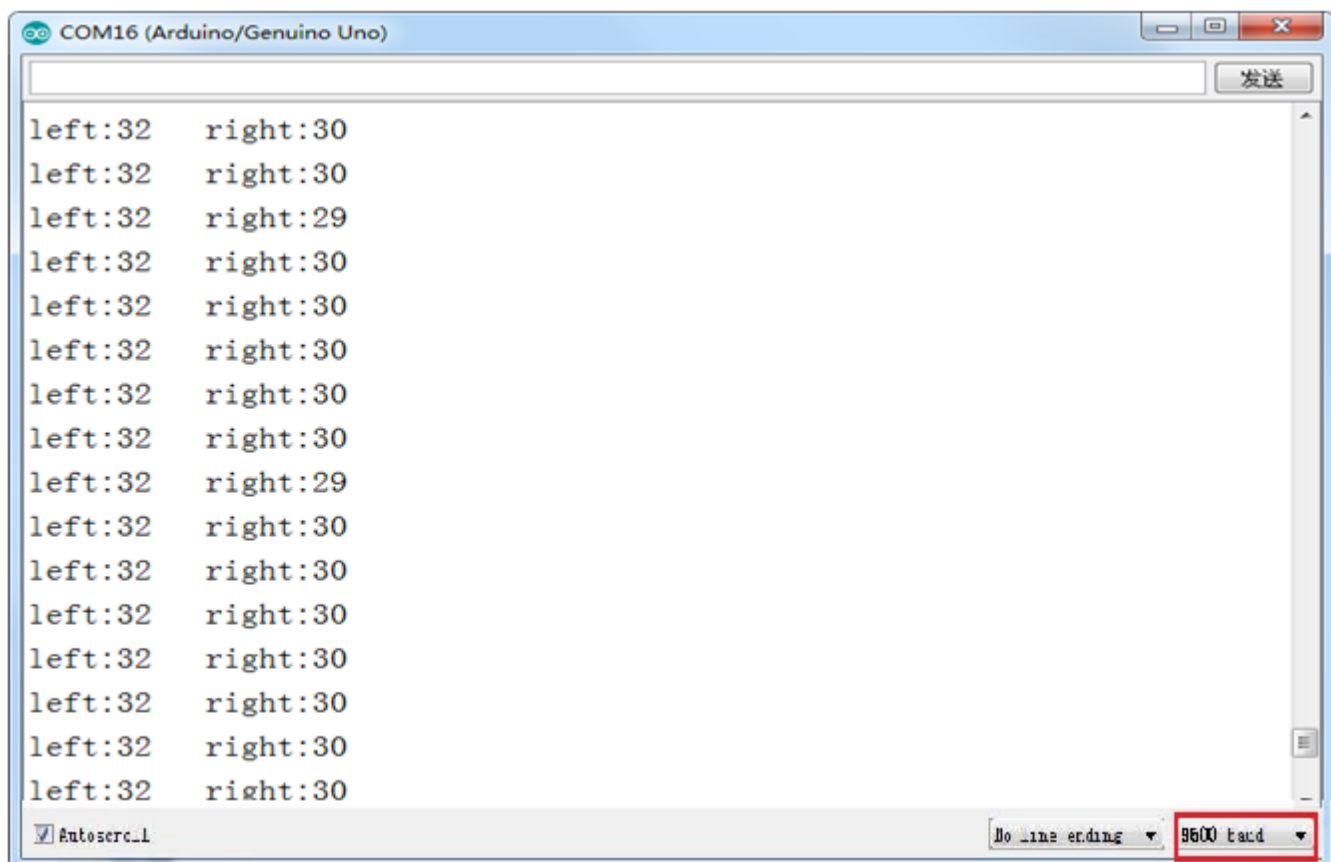

Figure .3.2.14 Diagram of Data with Obstacles
- 3, Module test. Copying the following code to the IDE compiler environment (you can also open the program directly in the CD), downloading it to the development board, opening the serial port monitor (baud rate is 9600) and observing the changes of data when there is an obstacle (Figure 3.2.14) and no obstacle (Figure 3.2.15).